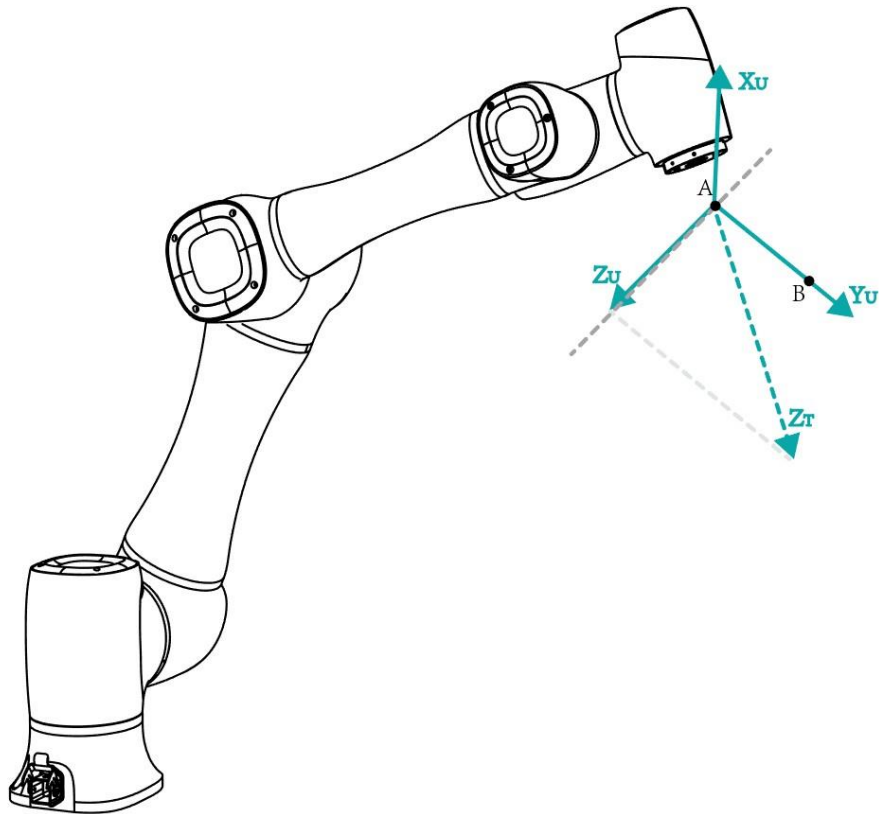

Figure 5.6 Line
- Line: Confirm a straight line by any two points **A** and **B**. The direction from A to B is defined as the positive direction of Y-axis, The Z-axis of Tool coordinate system of which point A is the origin is projected into the vertical plane that confirmed by points A and point B, we can define it as the positive direction of Z-axis. and then the positive direction X axis can be defined based on the right-hand rule. As shown Figure 5.6.